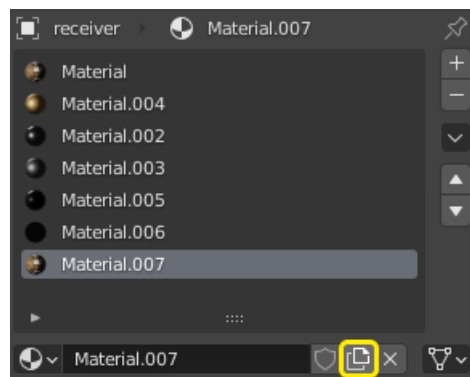

Figure 4.41 – Duplicating a material
2. Duplicate the material using the **New Material** button, marked in *Figure 4.41*: